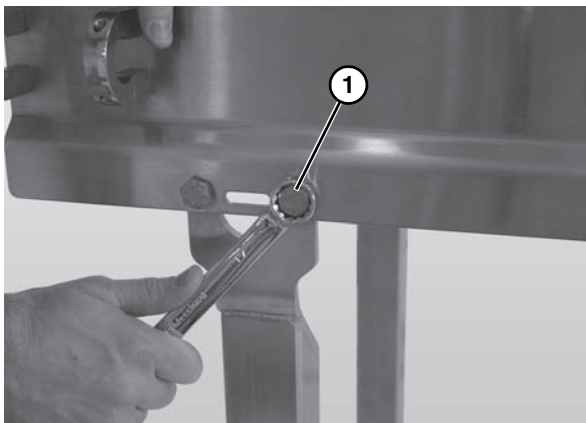

Figure 11
2. Attach the stands to the frame (Figure 11, item 1).